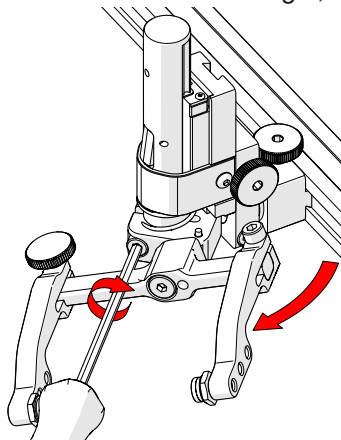

Fig. 174 - Rotate and tighten
3. Tighten the transverse adjustment screw (*Fig. 174*).